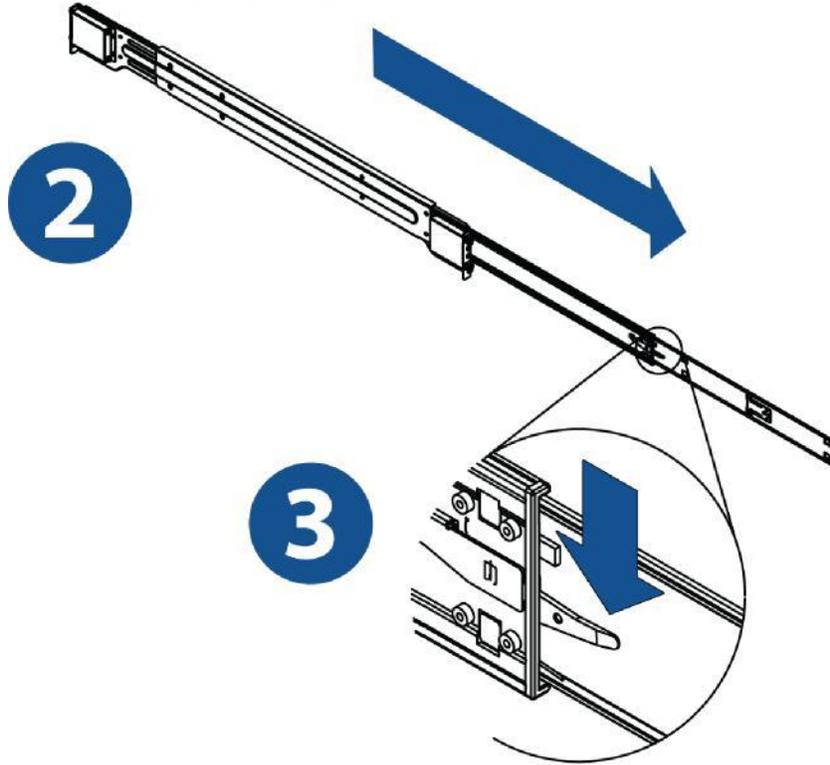

Figure 8: Extend Rail Assembly
- 3. Press the quick-release tab as illustrated in Figure 8.